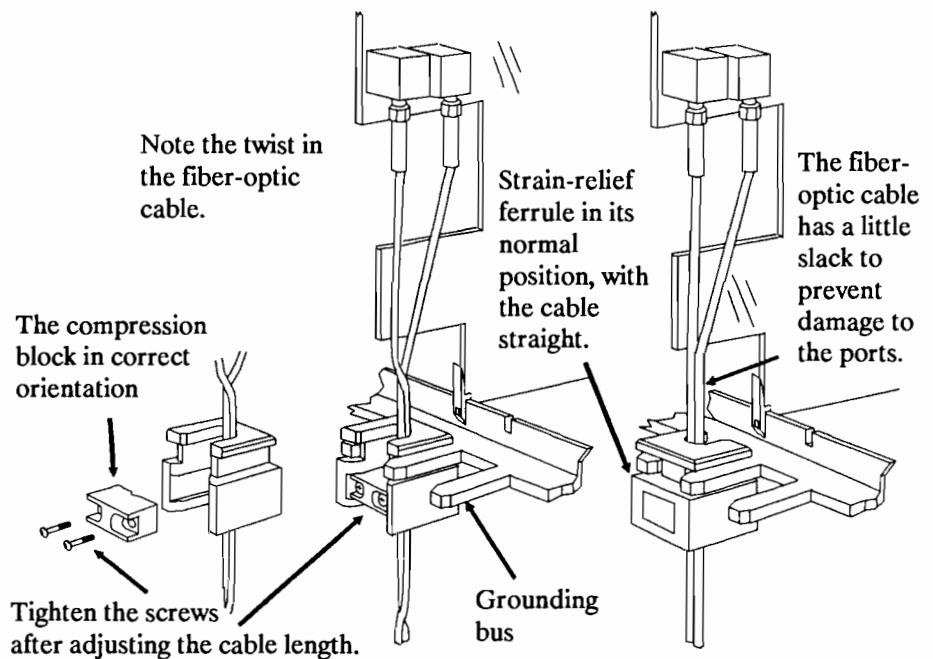

Figure 2-5. Fiber-Optic Cable Strain-Relief Ferrule
1. Place the ferrule into the “grounding bus” backwards – that is, with its open side exposed as shown in figure 2-5. As the figure illustrates, lay the fiber-optic cable into the ferrule with a half twist. (At the end of the installation process, you will take the twist out again. The cable will then be straight with the ferrule is in its normal position.) Be sure there is no tension on the PCA’s optical ports.